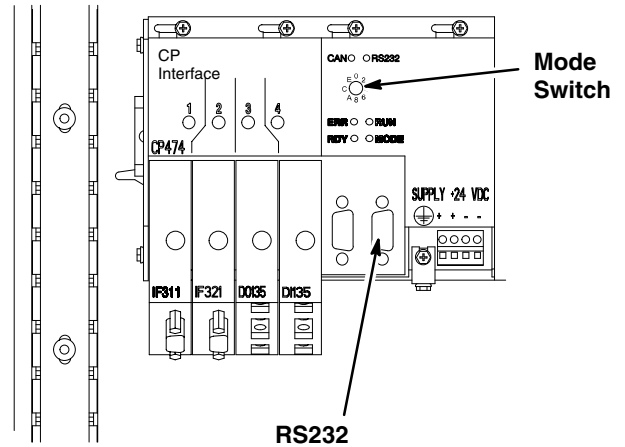

Fig. 13.21
4. Set the mode switch on the controller to A. See Fig. 13.21.